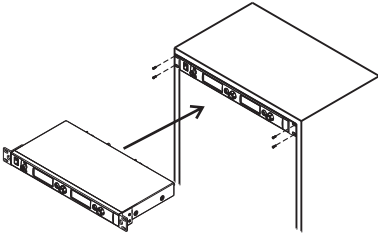

Fig. 7
3. Receivers can be fitted on an EIA standard 19-inch rack case. For improved reception, an optional rear-to-front antenna cable installation through rackmount screw holes ⑨ is highly recommended, Fig. 7.